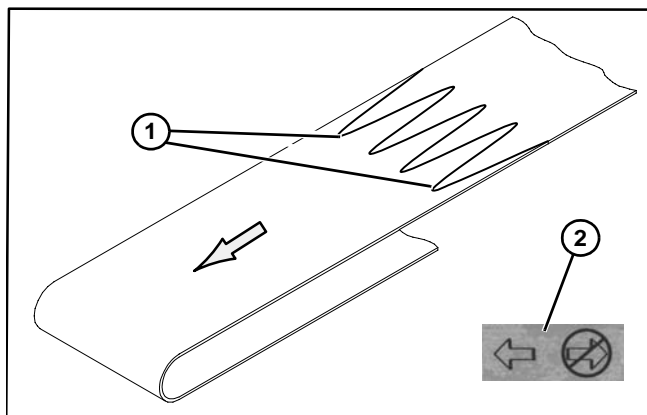

Figure 67
2. Orient belt so splice leading fingers (**Figure 67, item 1**) point in the direction of belt travel as identified by the conveyor directional label (**Figure 67, item 2**).